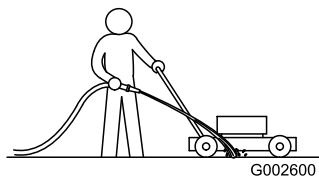

Figure 20
5. With the motor running and the blade engaged, spray a stream of water in front of the right, rear wheel (Figure 20).